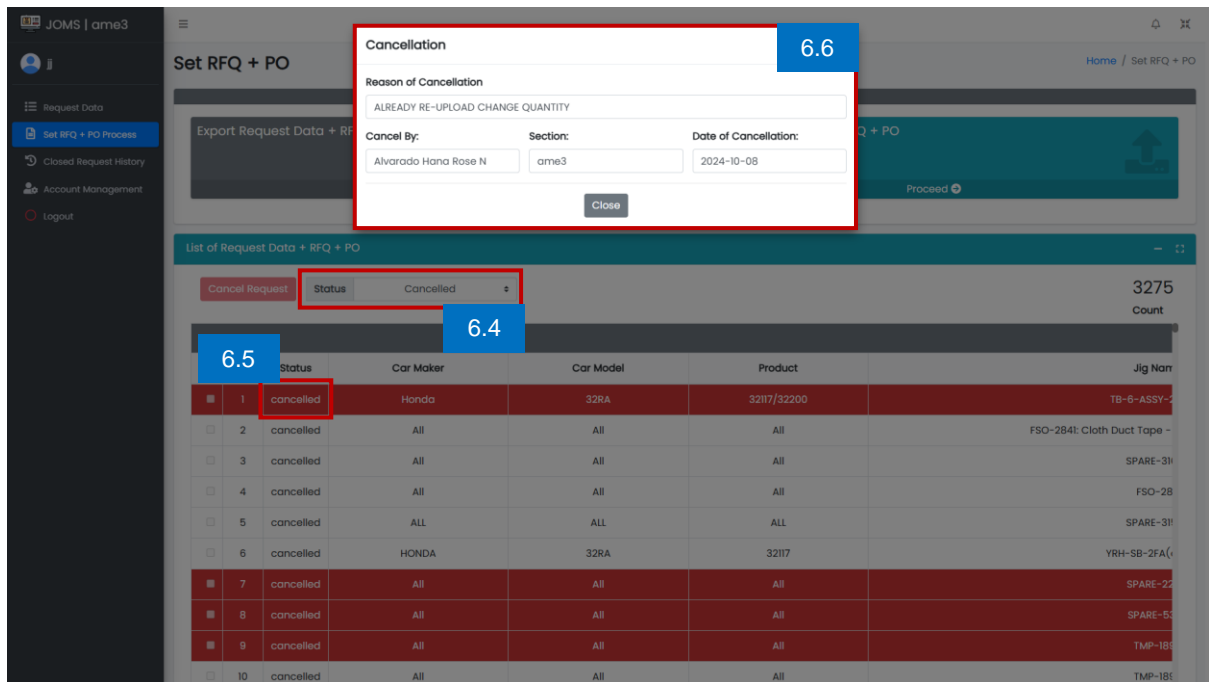

Figure 19. AME3 Cancelled Request
6.4 Click Section, the Status must be Cancelled. (See Figure 19)
6.5 Click Cancelled under Status column. (See Figure 19)
6.6 View the cancelled data. (See Figure 19)